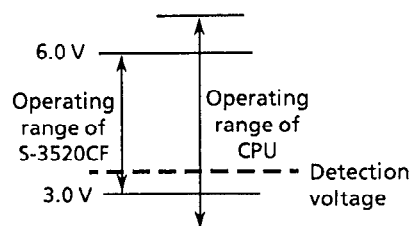

Figure 11 Setting of detection voltage at power down of system power
When using the S-3520CF with system power and backup battery power, power-down detection and power change circuits are needed. If the system power is down, V_{DD} falls to the battery voltage level. The power supply voltage range where the S-3520CF can interface with a CPU is 3.0 to 6.0 V. To prevent a malfunction, design a circuit so that the S-3520CF cannot be accessed when V_{DD} is higher than 3.0 V and higher than the minimum operating voltage of the CPU (see Figure 11). As in Figure 12 on the next page, moreover, design so that the PDW goes low before V_{DD} falls to (1) and goes high after system power returns and V_{DD} rises to (1).
(1) Minimum operating voltage of the CPU ≥ 3.0 V
(2) Minimum operating voltage of the CPU < 3.0 V